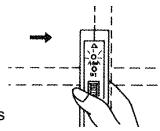

Fig. 6
3.3.6 Move the unit horizontally across the wall. Refer to Fig. 6. Ensure that the detector face marked 'STUD' is placed against the wall, otherwise the green LED will go out and the calibration procedures will need to be repeated.